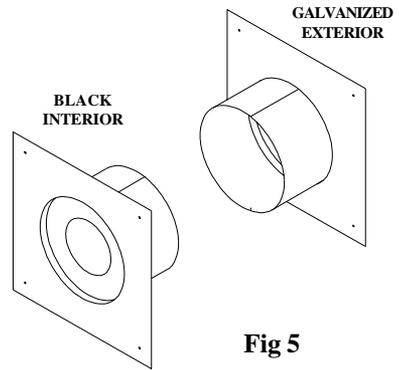

Fig 5
B. Cut a square opening in the wall in accordance with the dimensions in Table 2. The black portion of the Wall Thimble is to be attached to the interior wall, and the galvanized portion is to be attached to the exterior wall. The Wall Thimble is adjustable to fit walls from 3" - 8" thick. (Figure 5.)